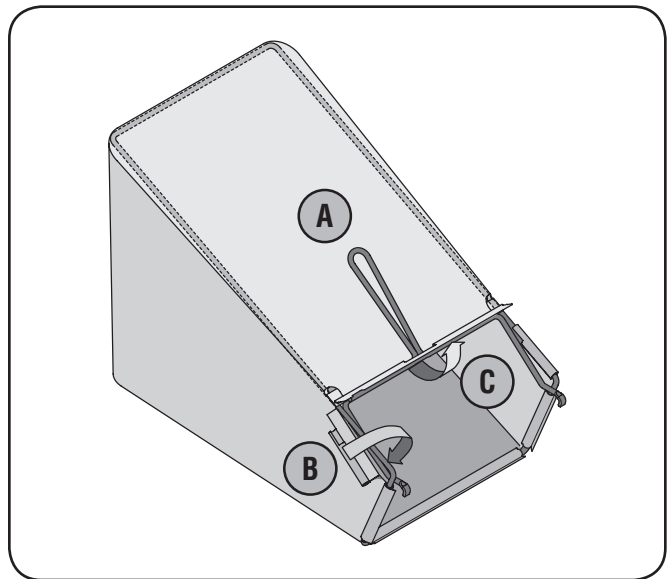

Figure 3-4
- b. Slip plastic channel of grass bag over hooks on the frame. See Fig. 3-4. All the plastic channels except center top of bag attach from outside of frame.